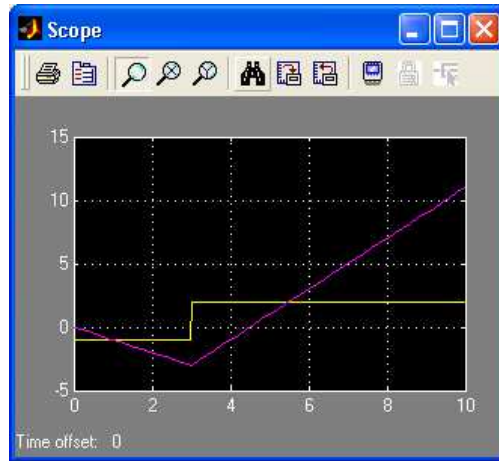

Figure 32: Results of integration from input of the Step block.
2. With a step input with Step time = 3.0, Initial value = -1.0, Final value = 2.0 and run the simulation from  $t = 0.0$  to  $t = 10.0$  seconds. You should obtain the plot shown in Fig. 32.